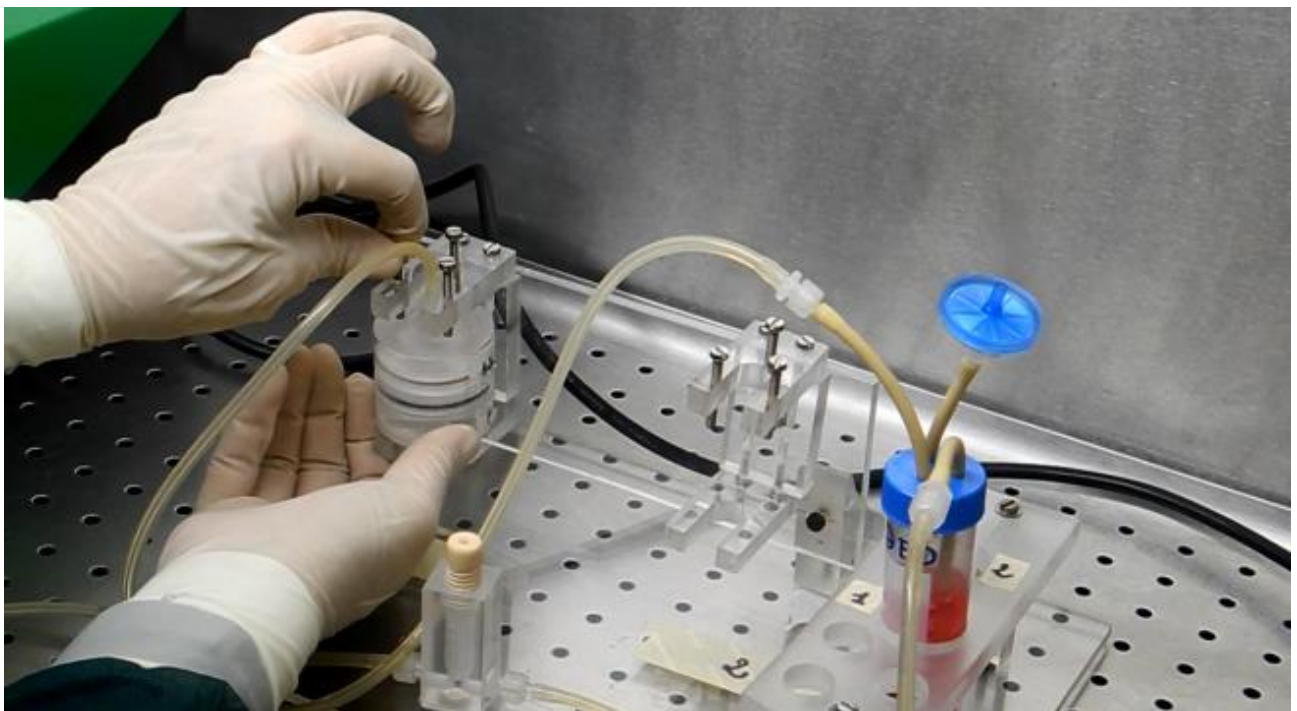

Figure 10
- Place the culture chamber, vertically, on its holder support and lock it with the four support screws (Figure 10).